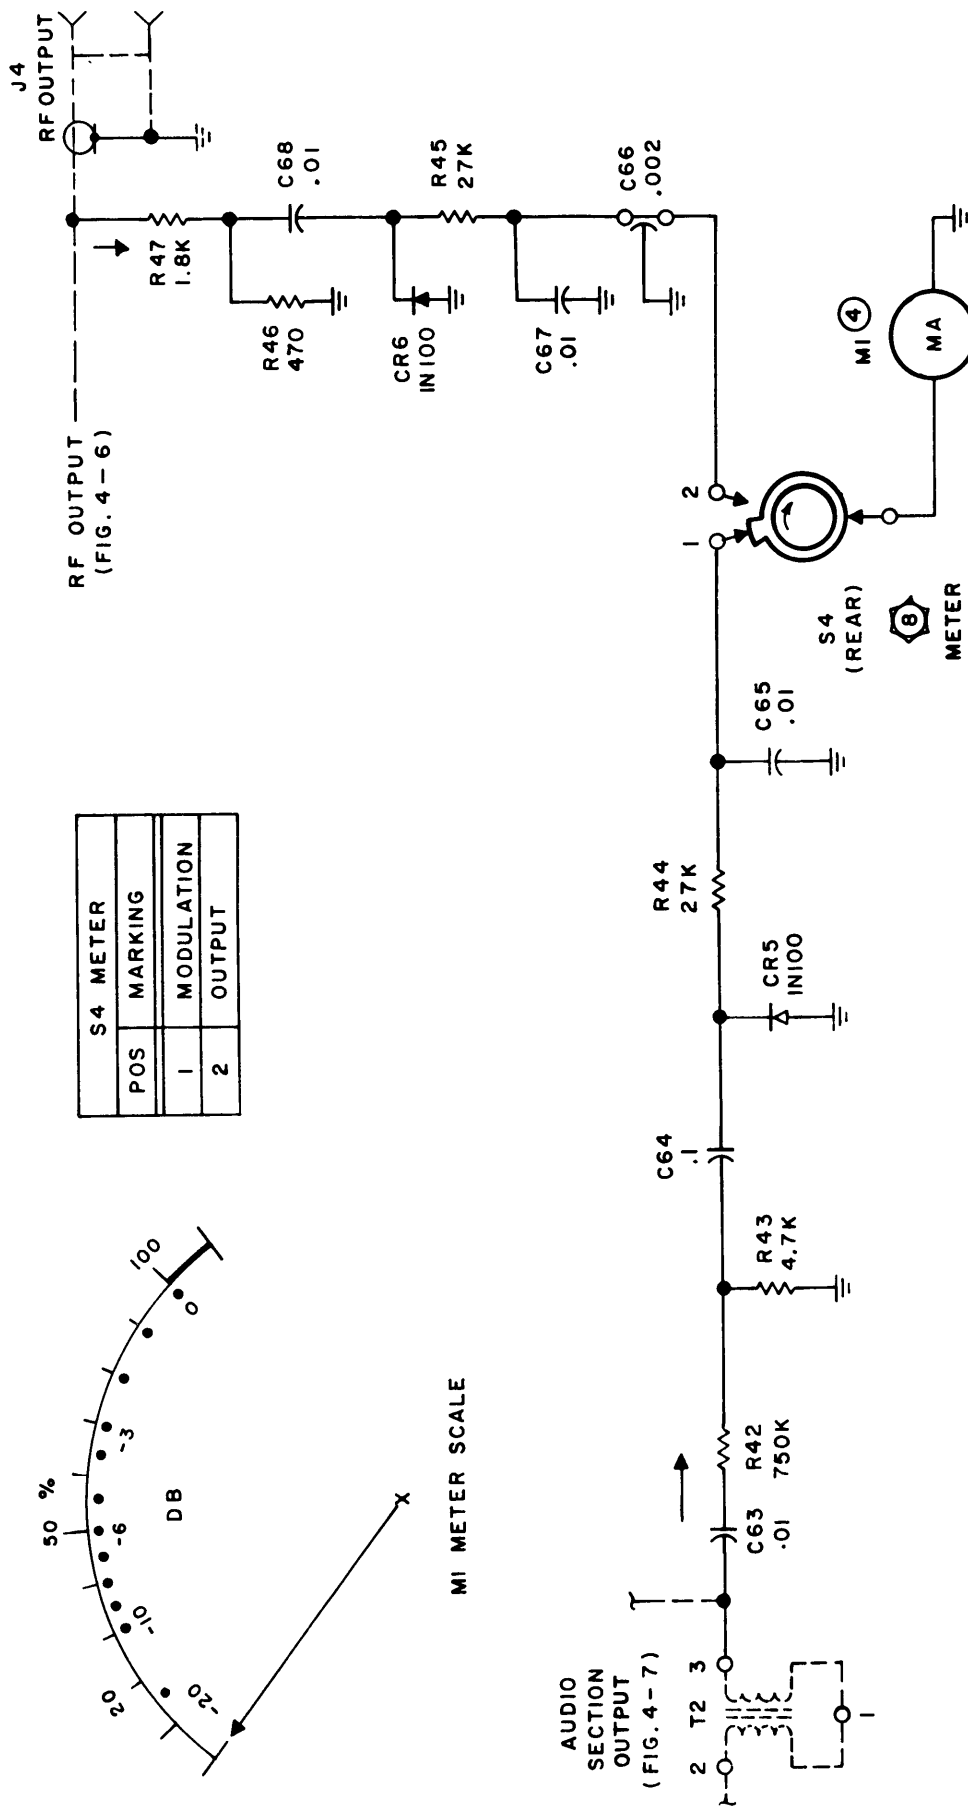

Figure 4-9. Simplified Schematic Diagram, Meter Section, GPE-1.
i. METER SECTION (figure 4-9). Output of the modulating signal is sampled at terminal 3 of T2 modulation transformer; final output of GPE is sampled at J4. The two separate samples are converted into half-wave rectified current and brought through S4 METER selector switch and M1 microammeter. When S4 is in OUTPUT position meter reads representative level of GPE final output voltage made up of unmodulated or modulated carrier. In MODULATION position of S4, meter reads only representative level of modulating signal voltage. Under the following conditions: